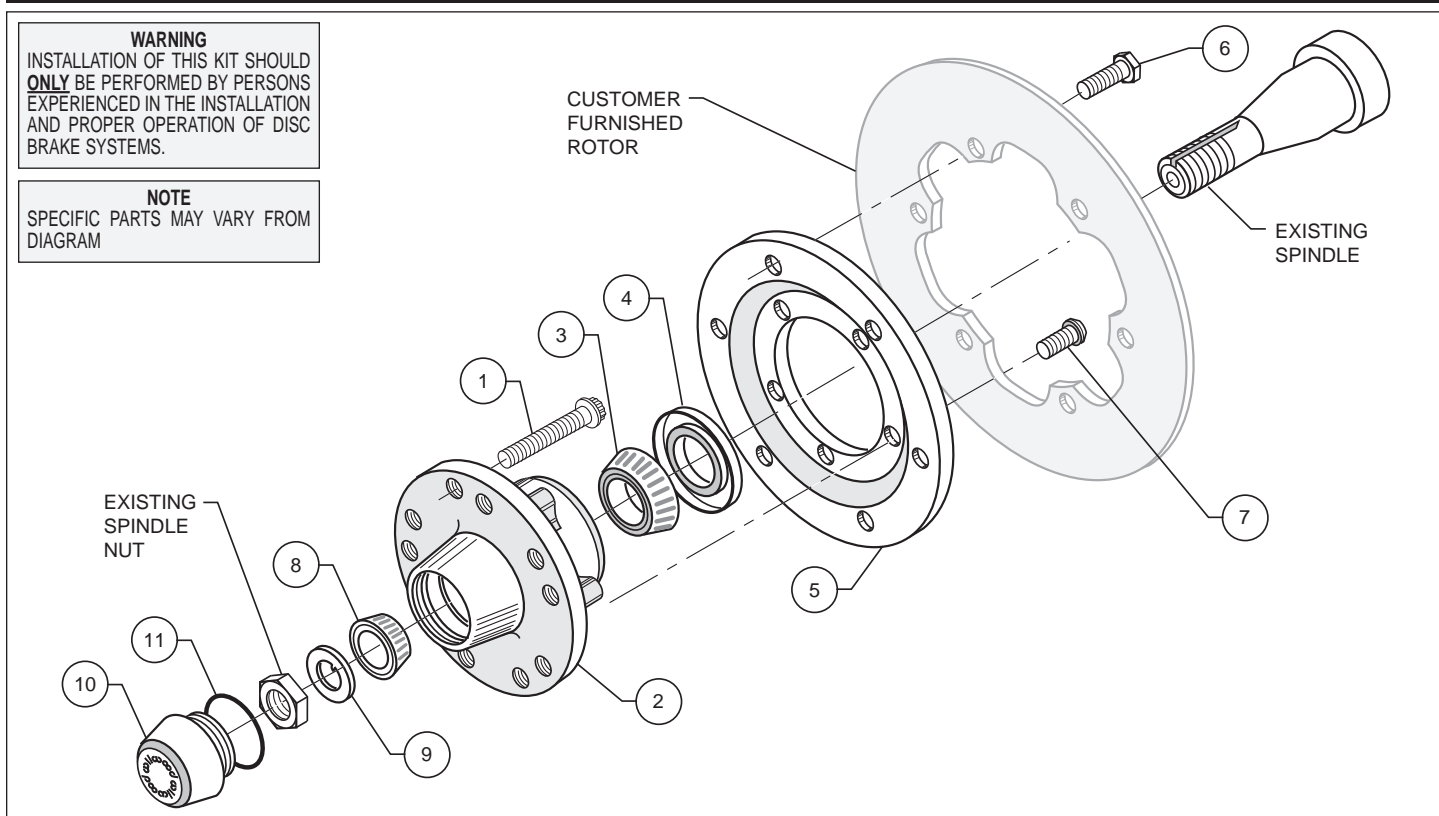
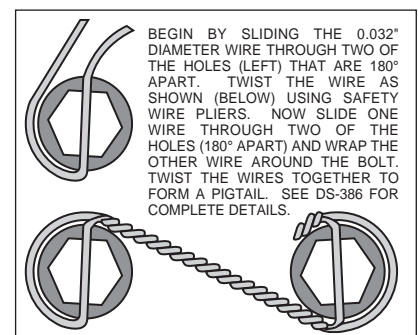

Figure 1. Typical Installation Configuration
Figure 2. Safety Wire Diagram
- Install wheel studs (1) into the hub (2), as shown in Figure 1. Torque to 77 ft-lb. **NOTE:** There are two five lug patterns in the hub (5 x 4.50 and 5 x 4.75). Ensure the correct hub stud pattern is being used to fit the wheel application.
- Pack the large inner bearing cone (3) with high temperature disc brake bearing grease (available from your local auto parts store) and install into the backside of the hub (2).
- Install the grease seal (4) by pressing into the backside of the hub (2).
- Orient the customer supplied rotor and the rotor adapter (5) as shown in Figure 1. Attach the rotor to the adapter using bolts (6). Using an alternating sequence, apply red *Loctite*® 271 to the threads and torque bolts to 25 ft-lb. For an added measure of security, the bolts may be safety wired using standard 0.032 inch diameter stainless steel safety wire as shown in Figure 2. Please refer to Wilwood's data sheet DS-386 (available at [www.wilwood.com/Pdf/DataSheets/ds386.pdf](http://www.wilwood.com/Pdf/DataSheets/ds386.pdf)) for complete safety wire installation instructions.
- Mount the adapter/rotor assembly to the hub (2) using bolts (7), as shown in Figure 1. Using an alternating sequence, apply red *Loctite*® 271 to the threads, and torque to 45 ft-lb.
- Pack the small outer bearing cone (8) with high temperature disc brake bearing grease and install into hub (2). Slide the hub/rotor assembly onto the spindle. Secure using spindle washer (9) and Original Equipment Manufacturer (OEM) spindle nut.. Adjust bearings per OEM specifications. Install saved OEM nut lock (if any) and a new cotter pin (not included).
- Screw dust cap (10) into hub (2). Friction created by the o-ring (11) on the dust cap keeps it from unscrewing. **NOTE:** *The O.D. of the existing OEM spindle washer may be larger than the I.D. of the dust cap not allowing it to seat against the hub face. Therefore, use the spindle washer (9) supplied with the kit instead of the OEM washer.*